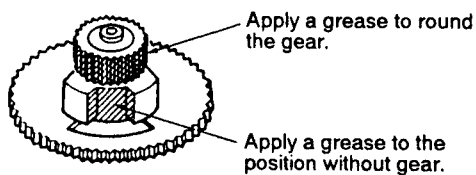

Fig. 14
- ① Grease the follow gear. (Fig.14)